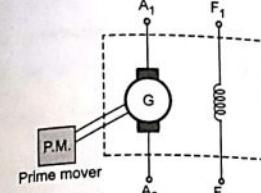

Fig. 7.6.1 Symbolic representation of D.C. generator
- The symbolic representation is shown in the Fig. 7.6.1. Many times an arrow ( $\uparrow$ ) is indicated near armature.